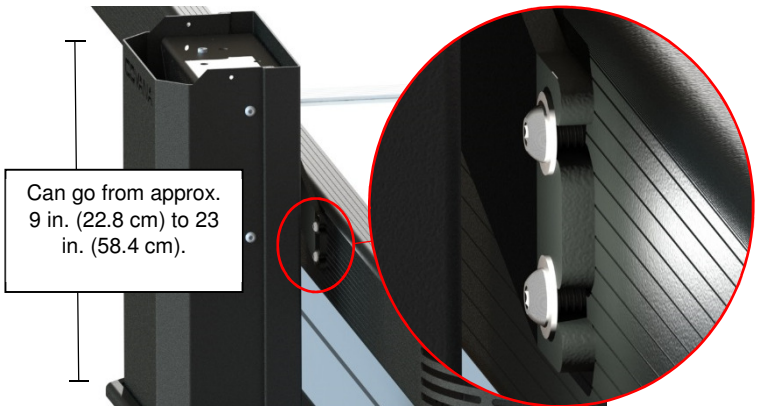

Figure 89
- 27) Screw the two front 1/4-20-1 in. button head screws and 1/4 in. flat washers on the cover and pivot arms as shown in Figure 89.